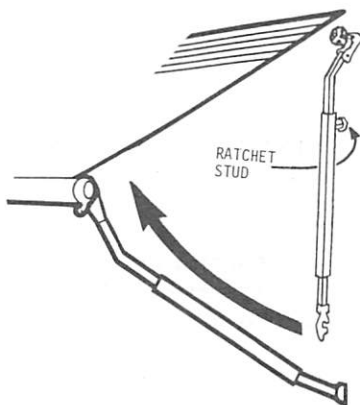

Fig. 4
- Step 4. Release the rafter arm by pulling outward on the cap of the ratchet stud located on the upper portion of the arm. (Figure 4) Extend the arm and place the claw over the shaft of the roller.
- Step 3. To prevent billowing, hook the claw of the unextended rafter arm over the roller shaft (Figure 4). This will require that the awning to be extended approximately four and one half feet.